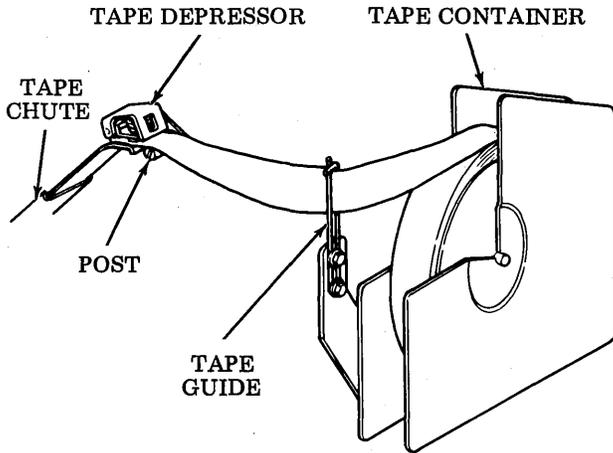

Figure 19 - Tape Path
4.06 Place the tape reel core into a roll of tape and place both into the tape container so that the tape unwinds from the top of the roll (Figure 19). Twist the free end of the tape 1/4 turn in the clockwise direction, pass the tape through the tape guide, twist the tape 1/4 turn in the counterclockwise direction, pass over the post and under the depressor of the tape slack mechanism, and into the tape chute of the reperforator.